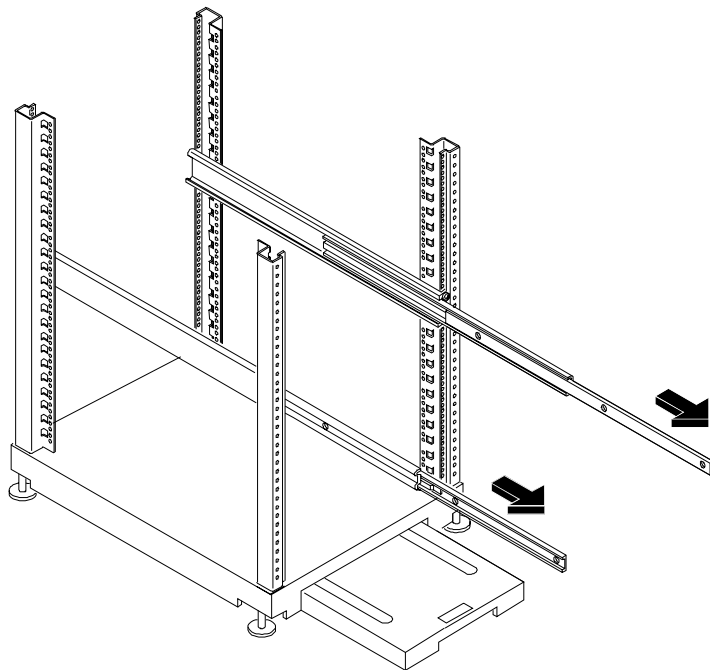

Figure 8-8. Preparing the Rack for NetServer Installation
1. Lower the four rack leveler feet to the floor, lifting the rack off the rack wheels (see Figure 8-8).